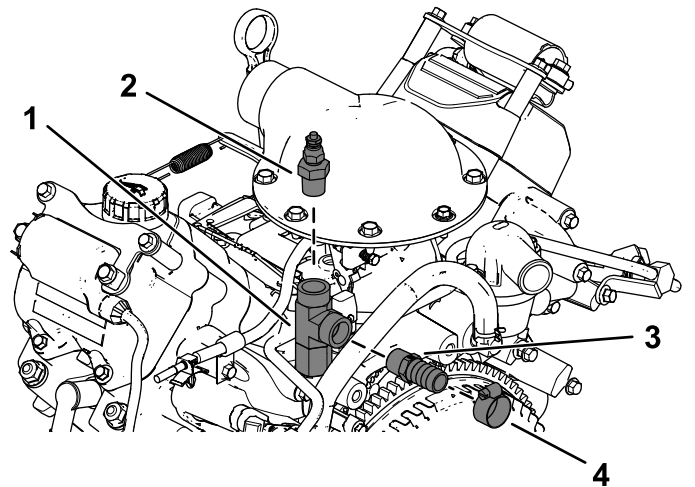

Figure 9
3. Install the temperature switch and the hose (3/8 inch) and adapter fitting (5/8 inch) with hose clamps as shown in Figure 9.